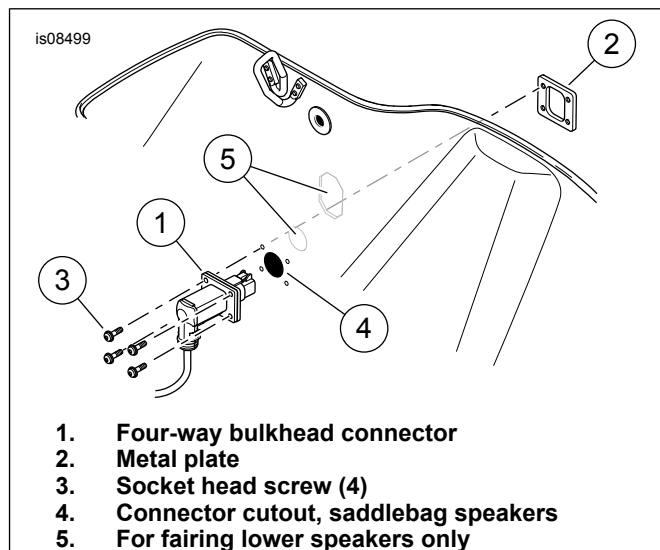

Figure 2. Four-Way Harness Connector Installation
9. See Figure 2. Remove the metal plate (2) from the four-way bulkhead connector (1) on the saddlebag harness. Insert the connector through the saddlebag hole (4) from the inside.
10. Slide the metal plate back onto the connector outside the saddlebag. Secure the connector with four socket head screws (3) from **inside** the saddlebag. Tighten.